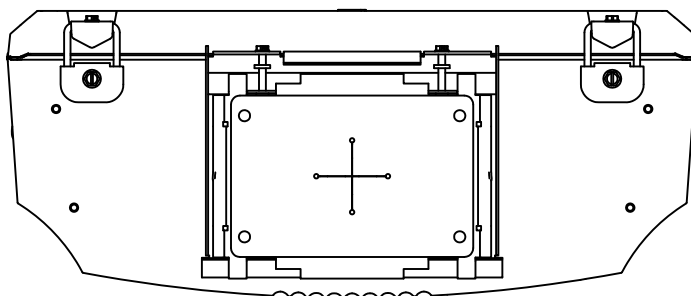

FIGURE 1
1. REMOVE LUMINAIRE AND MOUNTING PLATE FROM CARTON. PLACE LUMINAIRE ON CARDBOARD OR TOWELS TO PROTECT FINISH. POSITION LUMINAIRE SO CLAMP SCREWS ARE FACING UP. SEE FIGURE 1.